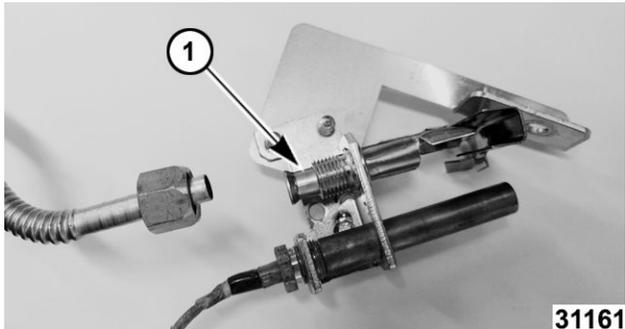

Fig. 23
- Pull orifice (1, Fig. 23) out and replace.